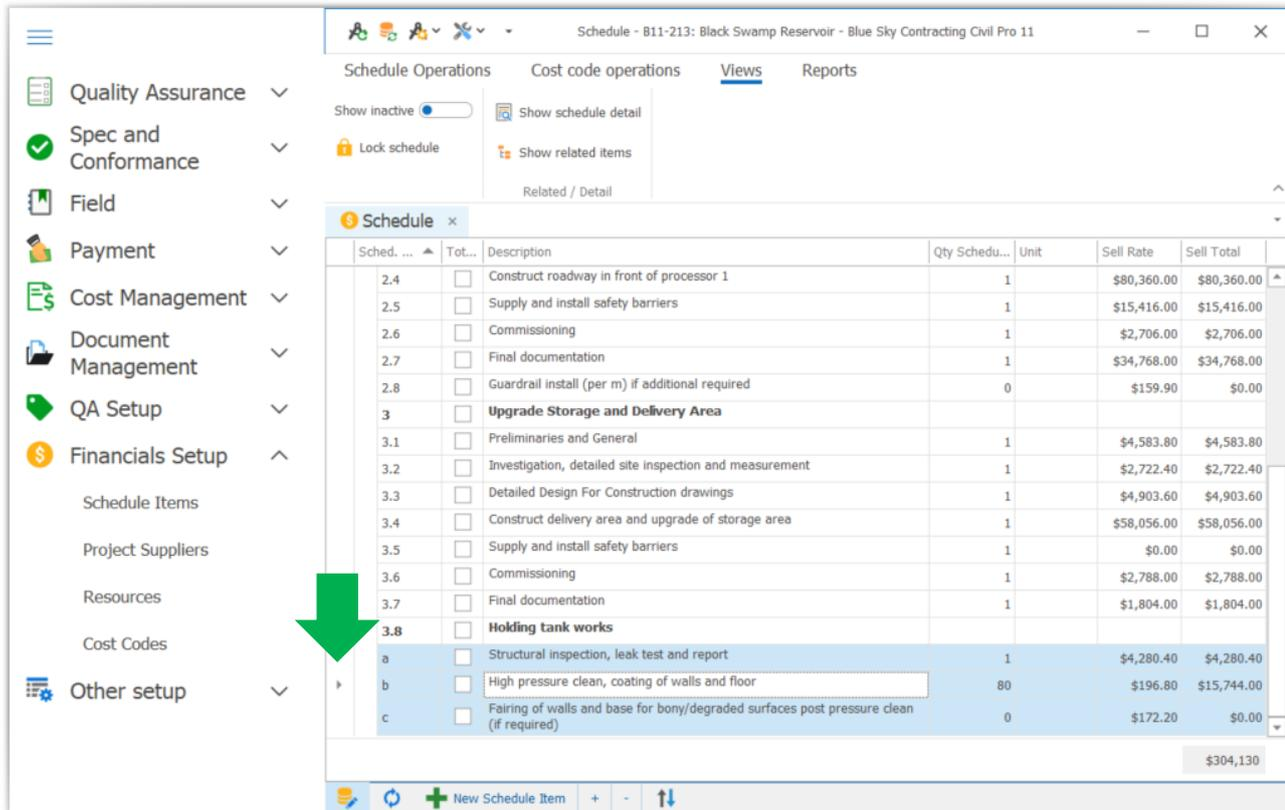

Figure 14 The Record Selector
1. Select one or more schedule Items. The easiest way to do this is to select, and then grab them using the record selector - the grey rectangle at the left of the text as in Figure 14.